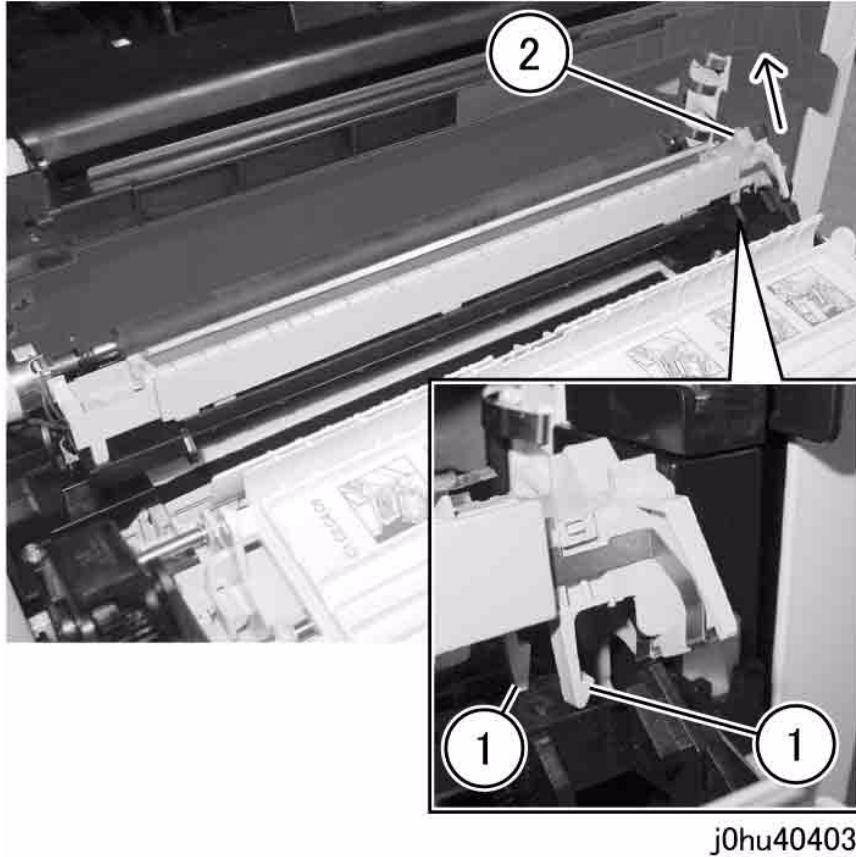

Figure 1 Remove Transfer Corotron Housing
6. Remove the Transfer Corotron Housing (Figure 1).